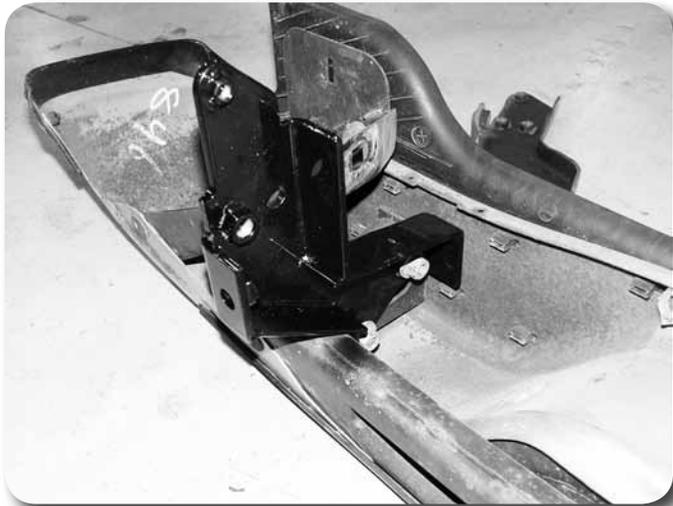

Figure 38
90. Install the provided rear bumper brackets to the bumper using the factory bumper mounting holes and hardware **Figure 38**. Leave hardware loose. The brackets will jog down toward the bottom of the bumper.